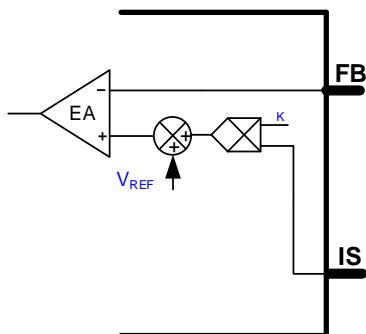

Figure 12: Cable Drop Compensation
The voltage drop on the cable is proportional to the output current, which is reflected on the voltage of the IS pin (see Figure 12). The maximum CDC voltage on FB is V_{CDC_MAX} . The cable drop compensation voltage can be calculated with Equation (20) on page 29.